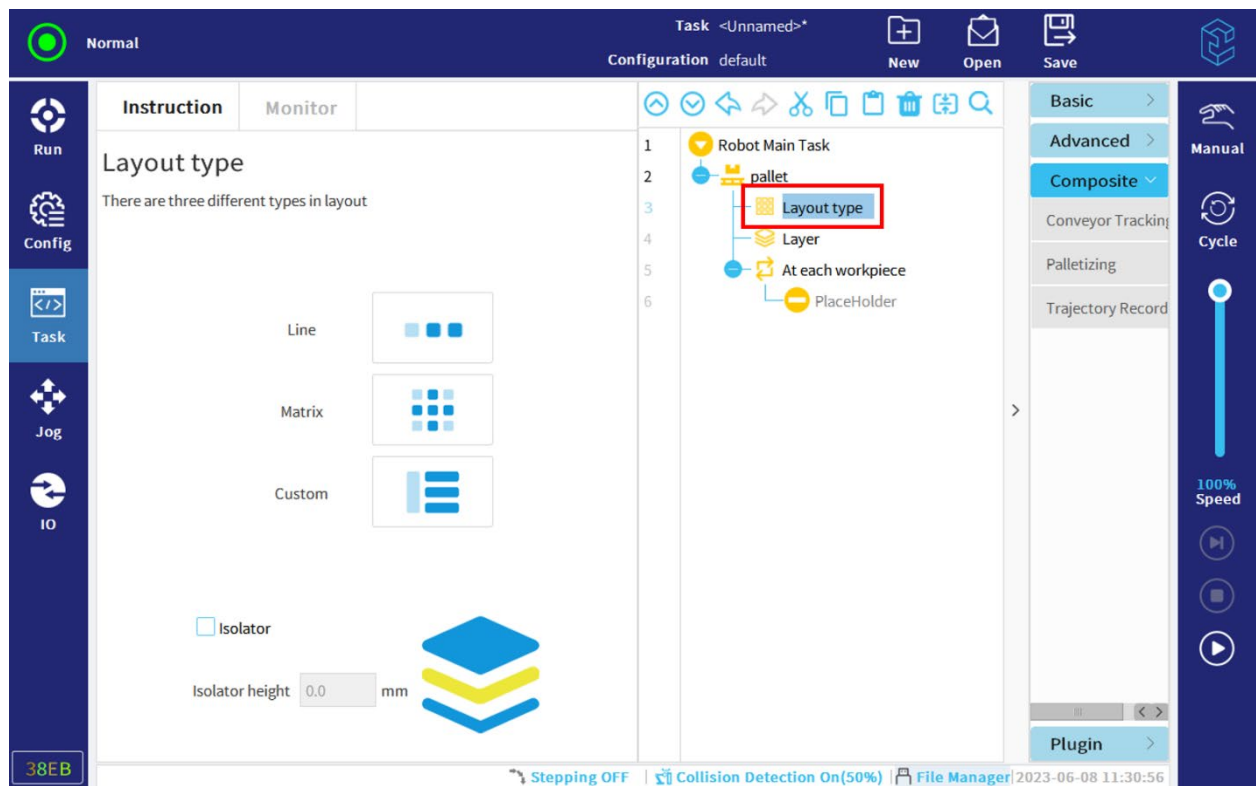

Figure 12-31 Set layout type
3. Click the "Layout type" node in the task tree, then the user can set it to "Line", "Matrix" or "Custom", as shown in Figure 12-31.